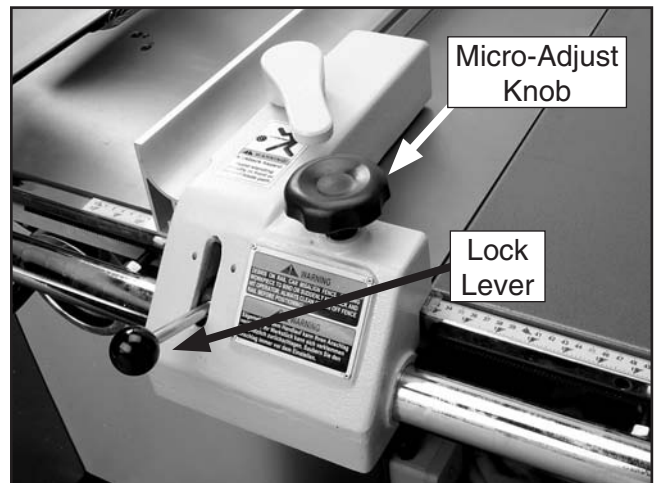

Figure 56. Rip fence micro-adjusting controls.
6. Push down on the rip fence micro-adjust knob (Figure 56) and turn it to adjust the width-of-cut.